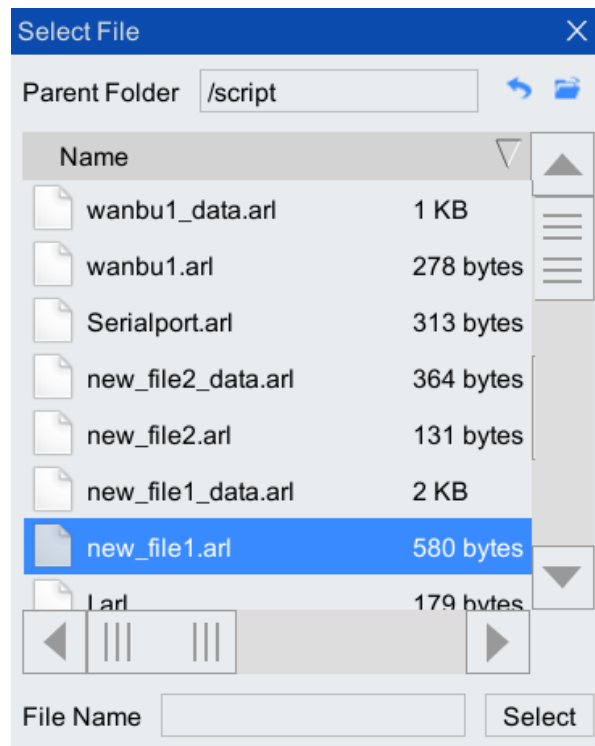
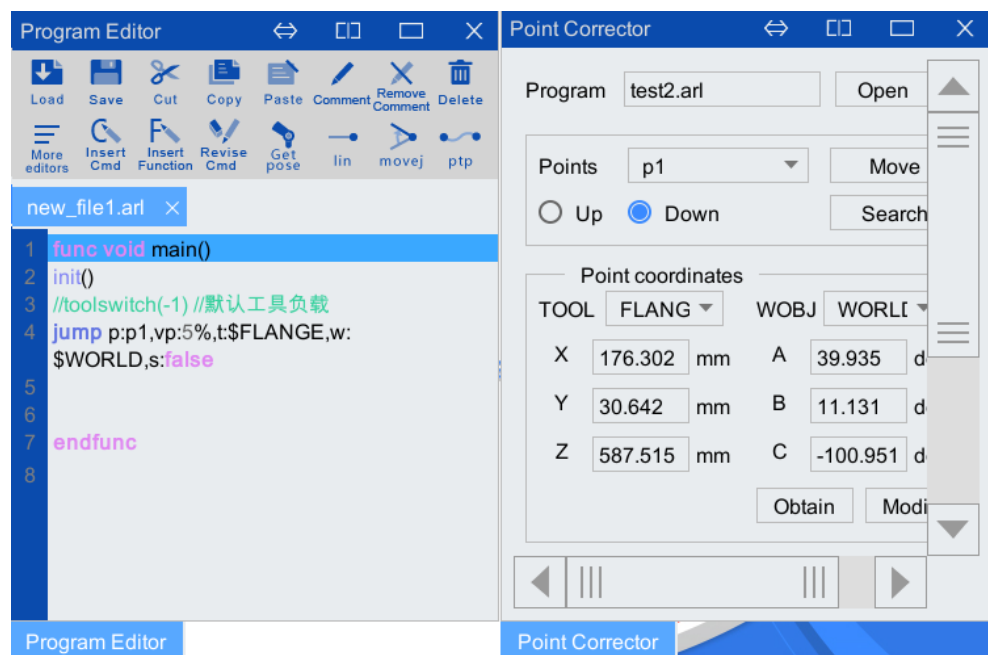

Figure 5-102 "select file" list box
Figure 5-103 "point corrector" and "program editor" interface after opening the file
Step2. Click the <Open> button above, and the "Select File" list box as shown in Figure 5-102 will pop up, select the file to be opened, and click the <Select> button. The program is opened in the "Program Editor" interface at the same time, its related information is also displayed in the "Point Corrector" interface, as shown in Figure 5-103.